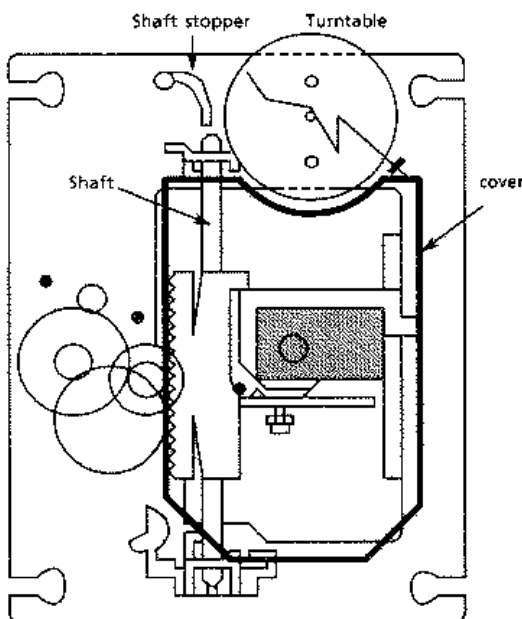

Fig.7 CD mechanism assembly
2. Remove the cover on the pickup (Fig.7).